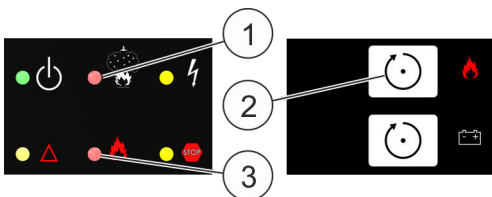

Fig. 36: LEDs and [Reset] button
- „Fire alarm detector 1”, „Pre-alarm”, LED "Extinguishing system triggered" flashes (Fig. 36 /1)
- „Fire”, LED "Extinguishing system released" (Fig. 36 /3)
- Reset the alarm with the upper [Reset] button (Fig. 36 /2) after at least 2 minutes so that the test gas can fully escape from the measuring chamber. The red LEDs go out and the alarm messages in the display are deleted.